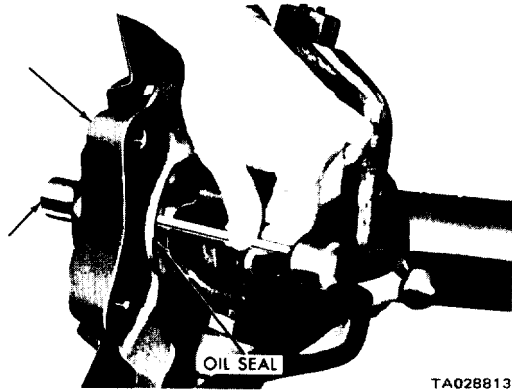

Figure 6-2. Removing Inner Oil Seal from Steering Knuckle.
(6) Remove and discard the "O" ring from the steering knuckle. Remove the capscrews from the brake splash shield. Remove the disc brake adapter from the steering knuckle.
(7) Disconnect the tie rod from the steering knuckle. Disconnect the drag link from the steering knuckle arm.
(8) Using a punch and hammer, remove the inner oil seal from the rear of the steering knuckle (figure 6-2). Care-